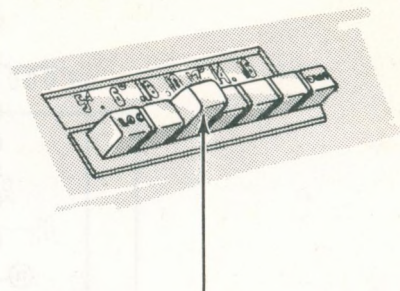

Fig. 9—Push Button Adjustment
7. PUSH BUTTON ADJUSTMENT— MODELS 920HR-847—921HR (Fig. 9)